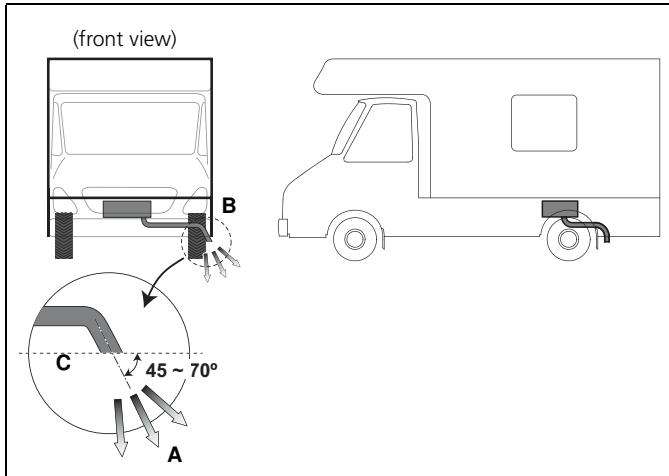

Fig. 34: Location and direction of exhaust
- The line must not point to the front of the vehicle. See Fig. 34.
- **Avoid the formation of an exhaust bag under the vehicle. See Fig. 34.**
If the exhaust pipe end is other than as shown, it will pose a fire risk. See Fig. 34.